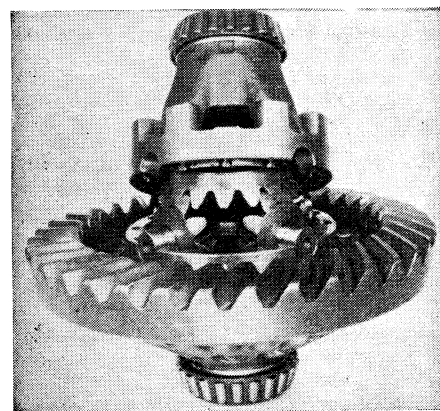

Fig. 110 Align mating marks before assembling differential case halves
6. Align mating marks, Fig. 110, position component case half and draw assembly together with four bolts equally spaced.